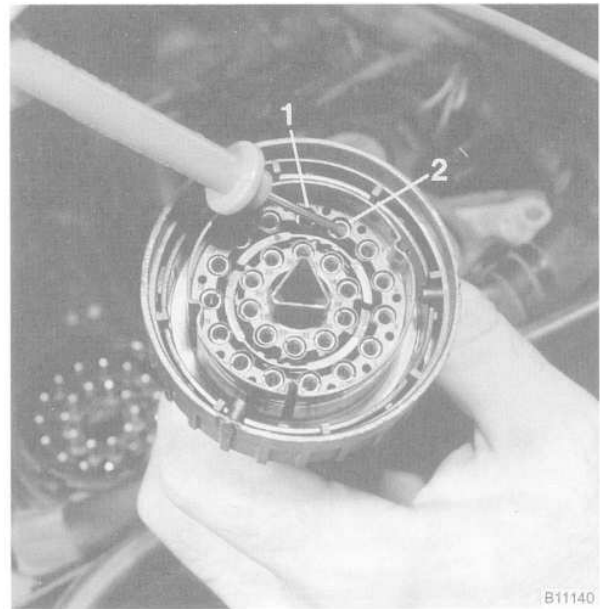

Fig. 3. Oil level sensor being tested through main harness connector. Blue/yellow wire (1) is for dynamic switch and blue/white wire (2) is for static switch.
4. Working at the side of the connector leading to the sensor, make the resistance checks given below. See Fig. 3. If any faults are found, the sensor should be replaced.